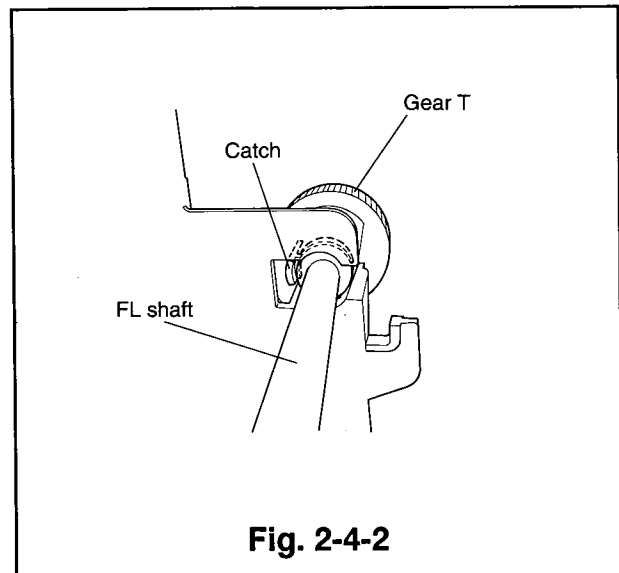

Fig. 2-4-2
- ① Follow the removal method in Items ① to ⑤ of Para. 2-2.
- ② Unfasten the catch fastening the gear T from the inside of the cassette housing to remove the FL shaft to which the gear S and T are attached. (Refer to Fig. 2-4-2)
- ③ Pull out the gear S and T from the FL shaft.